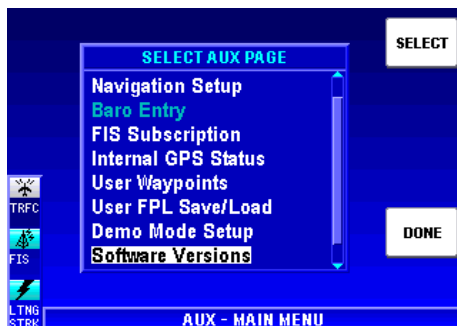

Figure 1-179
2. Press the **AUX MENU** Softkey to display Figure 1-179. If necessary, use the Joystick to highlight **Software Versions** as shown.